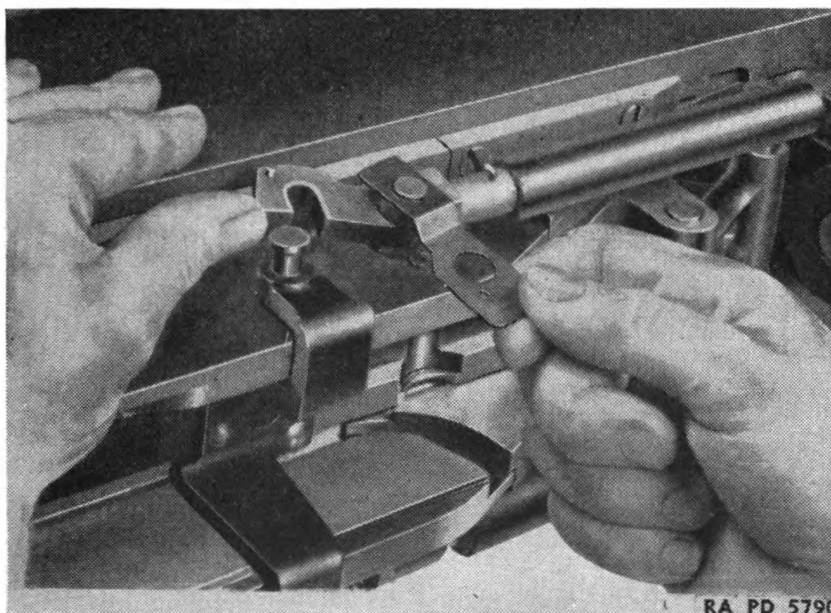

FIGURE 57.—Removal of driving spring assembly from lock frame.
(1) Lift the driving spring rod hook safety and rotate it downward.
(2) Lift the driving spring rod hook up and off the lock frame stud (fig. 57).